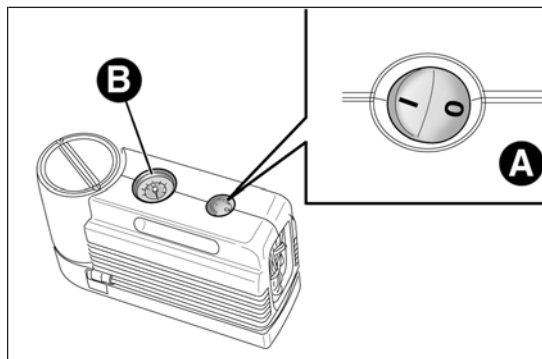
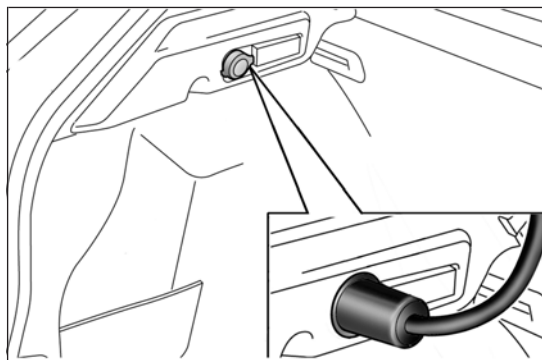

fig. 135
fig. 136
- make sure that switch A fig. 135 for the compressor is in position 0 (off), start the engine, insert the plug into the luggage compartment power socket (see fig. 136) or cigar lighter on central tunnel (see fig. 137) and switch on the compressor by bringing switch A fig. 135 to position I (on);
- inflate the tyre to the pressure indicated in the "Wheels" paragraph in the "Technical specifications" section. In order to obtain a more precise reading, check the pressure value on pressure gauge B fig. 135 with the compressor off;